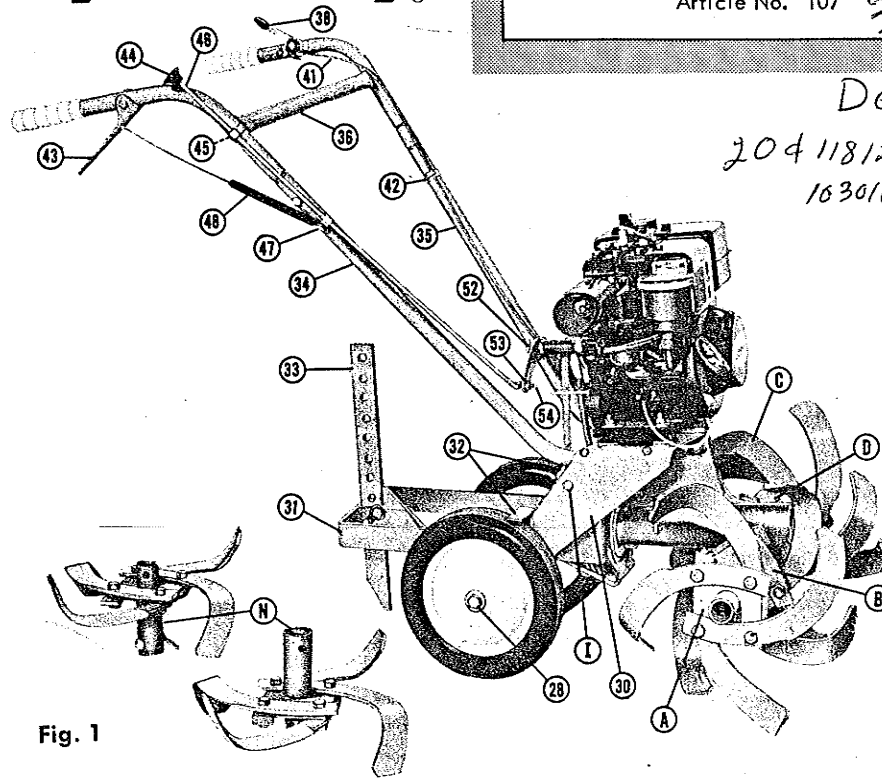
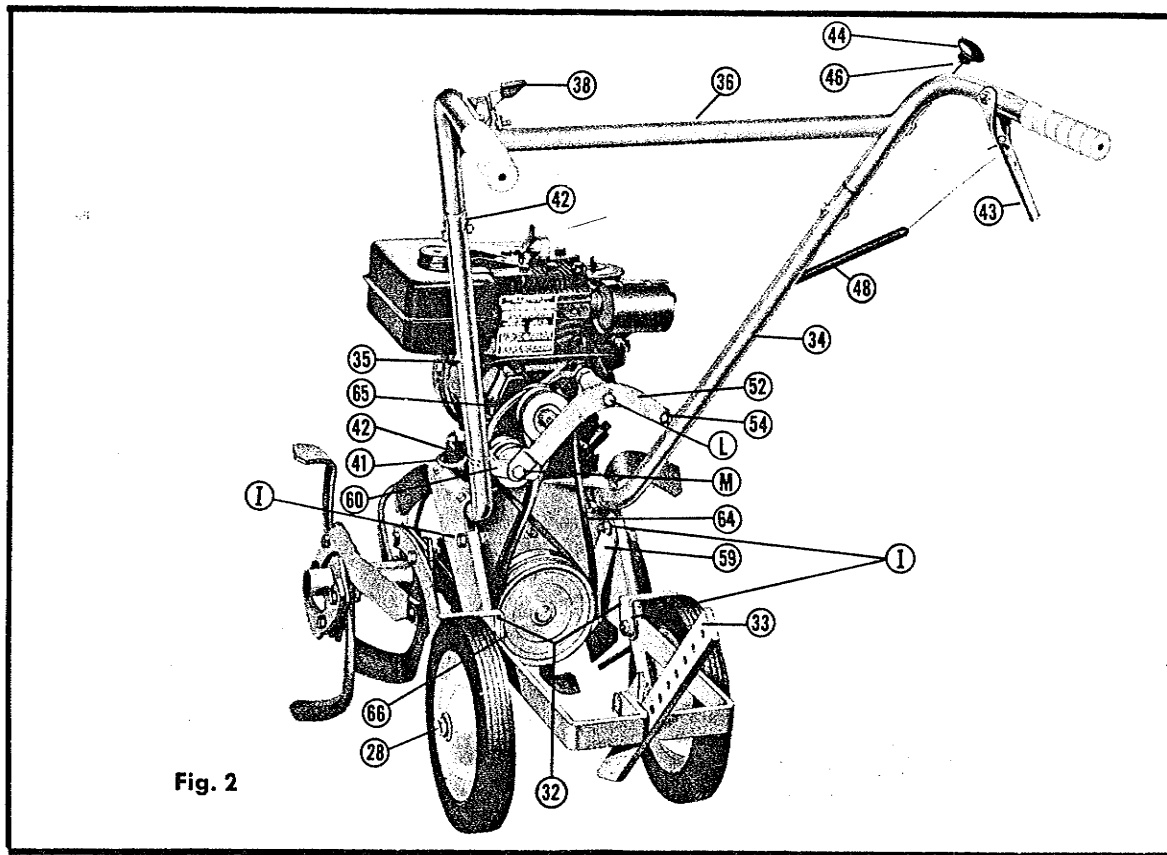

Fig. 1
Fig. 2
Figure 1 and figure 2 show the tiller completely assembled. Also refer to the exploded view.
2. Secure the wheel axle bolt to the frame assembly with the second nut (J). You will find two holes for the wheel axle bolt in the frame assembly. Use either hole for the handle height adjustment — upper hole provides lower handle height, low hole — higher height.
4. Install mud scrapers (32) to inside of rear frame assembly as shown in Fig. 2. Position them so that there will be approximately 1/4" clearance between tire and scraper.
1. Uncoil the throttle cable (41), wire, and lever (38) from the engine and string under the blower housing, under the fuel tank and on top of left handle.
2. Install the clips (42) at locations shown in the photographs, Fig. 1 and Fig. 2.
1. To remove the belts, remove the cotter pin (L) holding the idler lever on the engine stud. This will allow the idler lever to move out. Loosen the nut (M) holding the belt retainer (60) on the idler pulley. Loosen the top screws on both sides of the engine bracket which hold the belt guards (59) on the lower pulleys so that the belt guards can be moved outward which will facilitate removing the belts from around the lower pulleys.
2. Remove the forward drive belt (64). After this belt has been removed you will be able to remove the reverse drive belt (65).
4. Reset the belt retainer (60) on the idler pulley to original angular position, as shown in Fig. 2. **This adjustment is very important.** Tighten the nut so that the belt retainer is secure. Reinstall the idler lever and idler lever spring, being sure to put 1½ turns on the spring. Hook the spring under the engine pulley belt stop and under the idler lever. NOTE: This adjustment is very important as it allows the idler lever to float without pressure being exerted on either of the drive belts when idling. Reinsert the cotter pin.
6. Reset belt guards (59) and tighten screws.
7. To compensate for belt stretch, use shims (69) to raise engine.